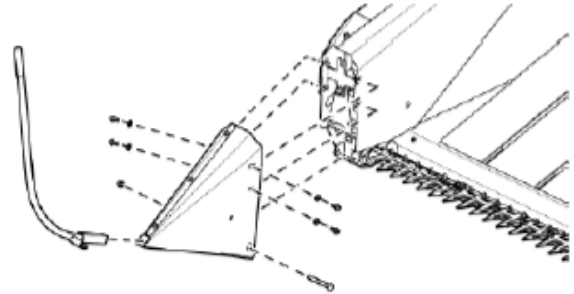

Fig. 23 - Install crop dividers
- Ensure the crop dividers are properly installed & free from material buildup. See Fig. 23 on page 25